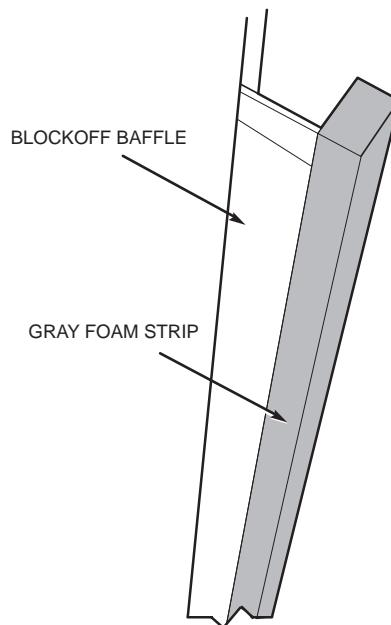

Fig. 22 — Adding Foam Strip To Blockoff Baffle
- h. Attach gray foam strip to blockoff baffle on outer face area of flange. See Fig. 22.